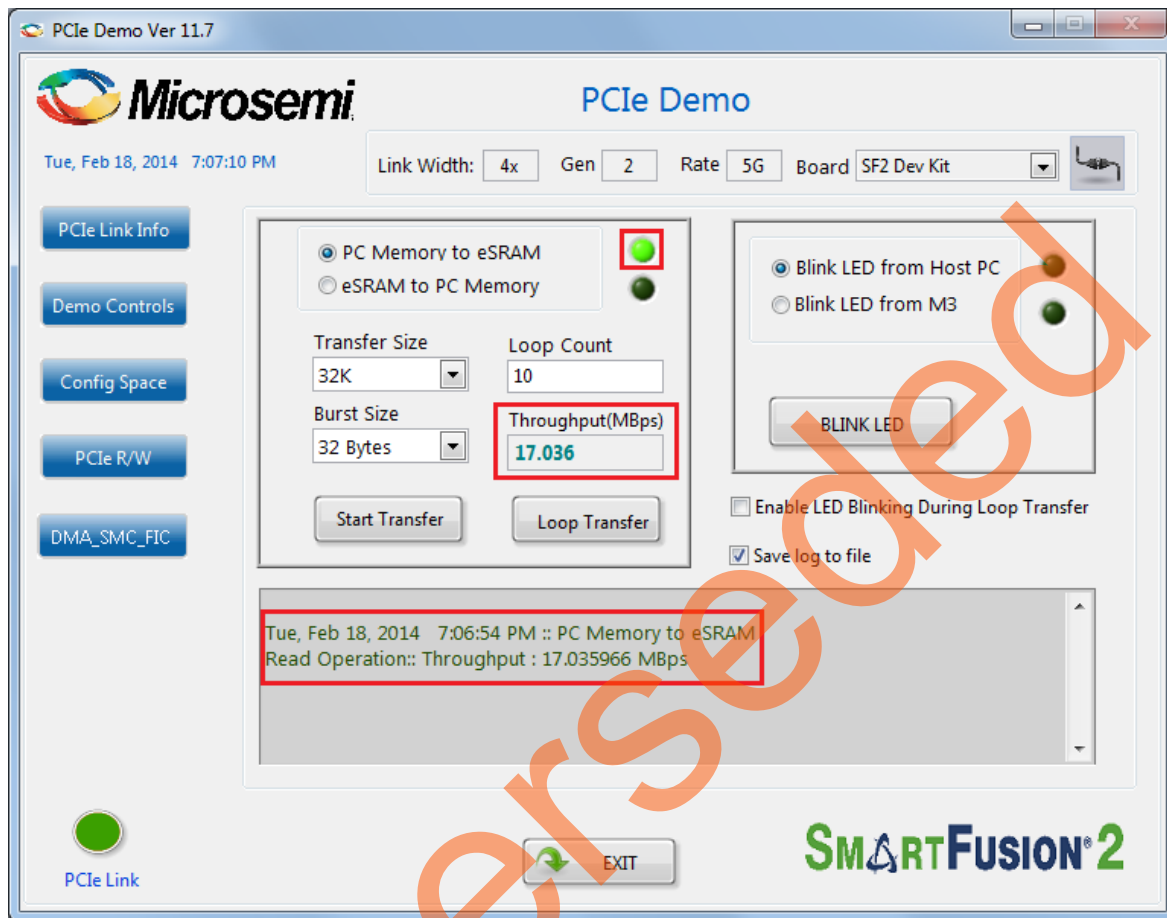

Figure 26 • Throughput in DMA transactions from Host PC to eSRAM
18. After completion of data transfer, the throughput is displayed. Figure 26 shows the throughput in the DMA transactions from the Host PC to eSRAM.